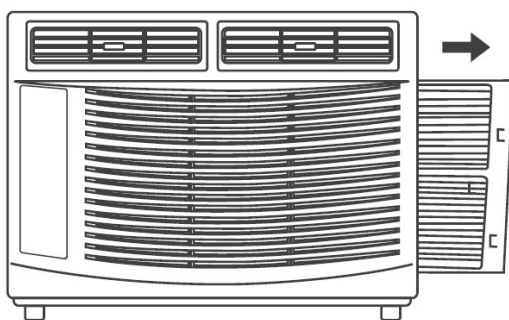

Fig.15
- Take off the power plug, then remove the filter by sliding it out from the front right side of the air conditioner. (See Fig.15)